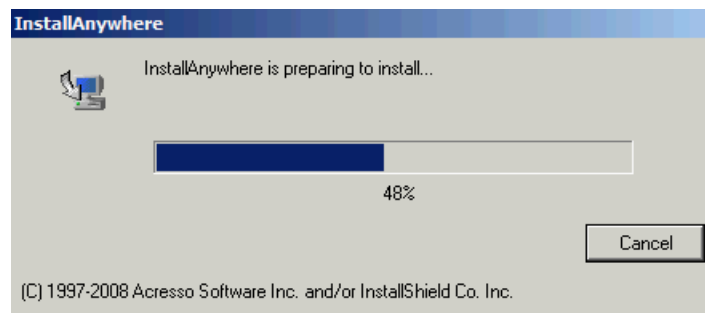

Figure 5-1 IBM DS Storage Manager InstallAnywhere
1. Run the installer file. Our version is SMIA-WS32-10.70.35.08.exe. The files unpack as shown in Figure 5-1.